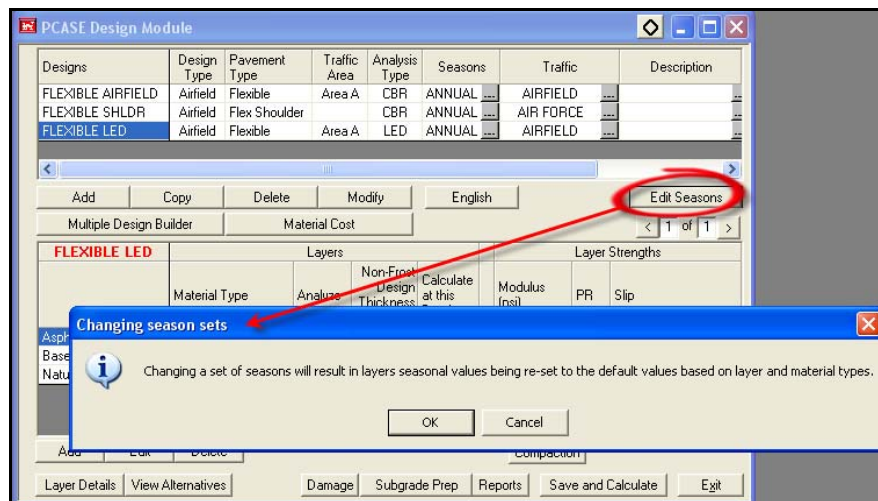

Figure 4-14. Creating Season Sets for Layered Elastic Designs
- (1) Go to the Seasons form by clicking the **Edit Seasons** button located on the right side of design window under the design grid. A dialog box will display indicating that your values (e.g., modulus, Poisson’s ration) will be reset to the defaults (Figure 4-14).
- (2) Click **Ok**; you will be entering new values for each season.